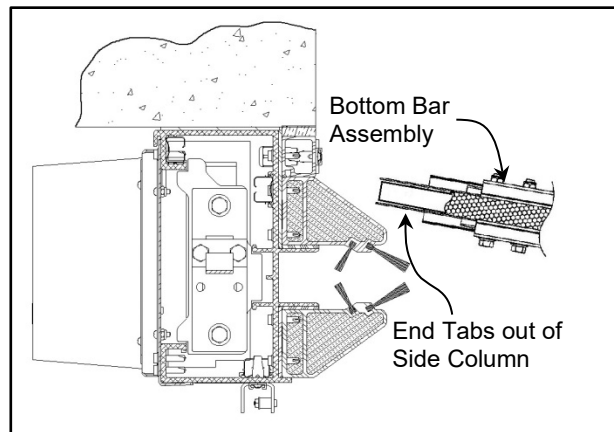
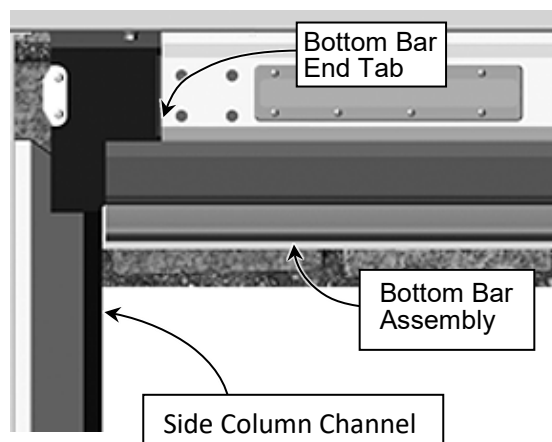

Figure 32
Figure 33
- The foam breakaway tabs have popped out of the side column's channel due to impact. (See Figure 32 and Figure 33)